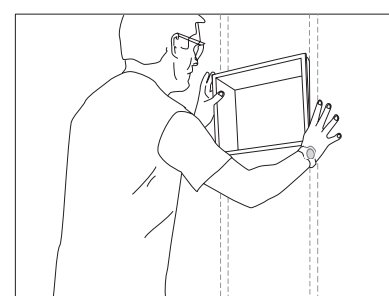

Figure 9
*Slide your new insert into the hole you just cut. See Figure 9. LOOKS good doesn't it? Fight the urge to start putting guns in it and taking pictures and finish the job.*